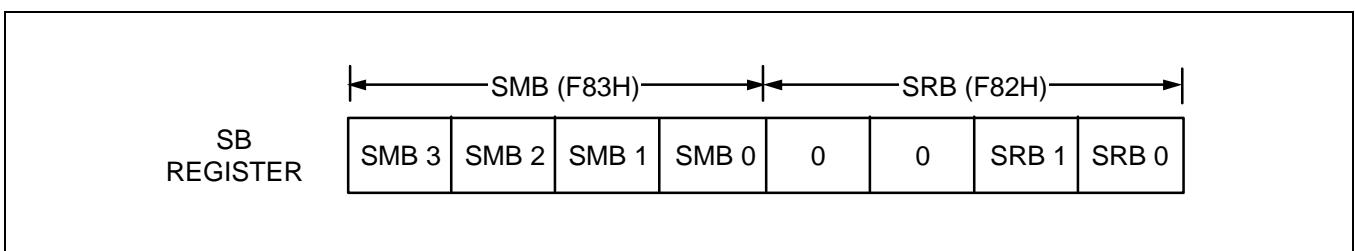

Figure 3-2. SMB and SRB Values in the SB Register
The select bank register (SB) is used to assign the memory bank and register bank. The 8-bit SB register consists of the 4-bit select register bank register (SRB) and the 4-bit select memory bank register (SMB), as shown in Figure 3-2.